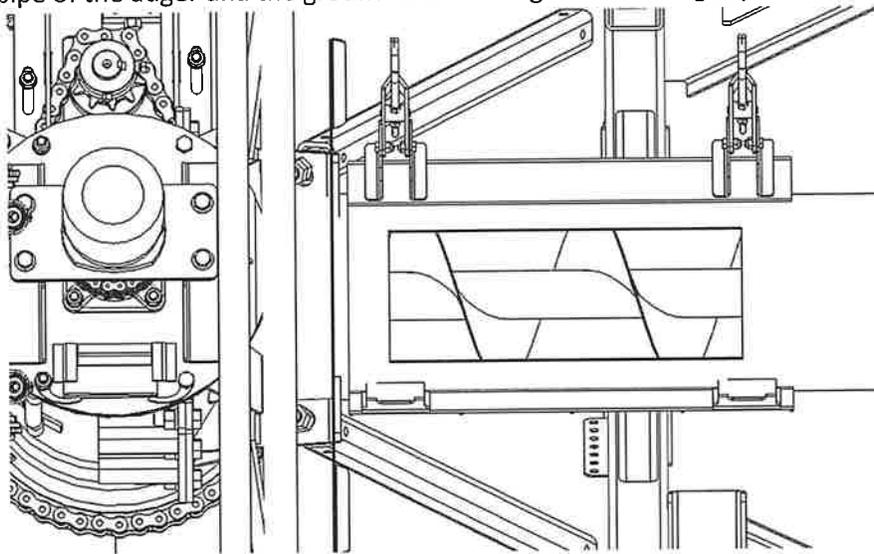

Figure 3
3. Open the bottom access/pit dump door as shown in Figure 3 Below and use a 2" x 4" to prop up the lower auger to relieve weight off of the hangar bearing. Wedge the 2" x 4" against the center pipe of the auger and the ground until the auger is lifted slightly.